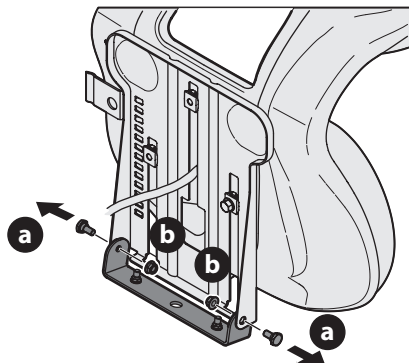

Figure 1
2. Remove the two shoulder bolts (a) and flange lock nuts (b) in the seat pan (Figure 1).